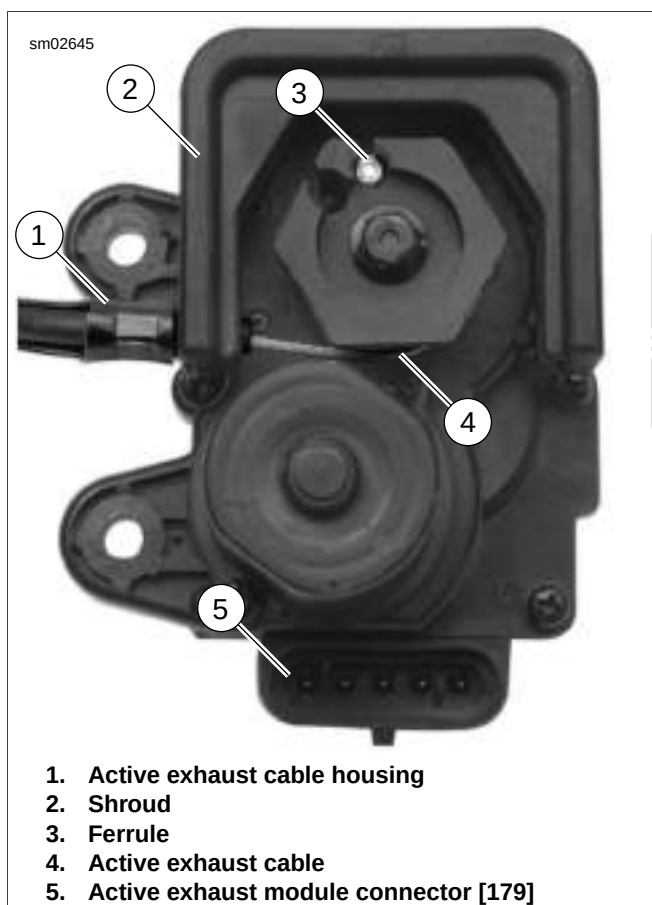
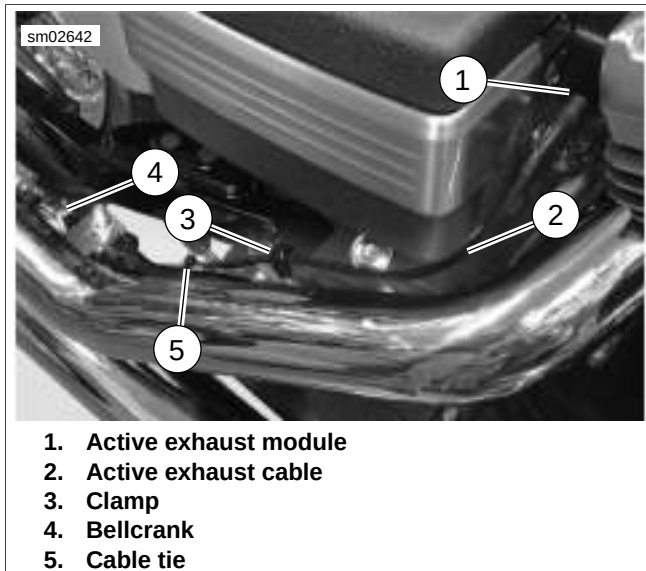
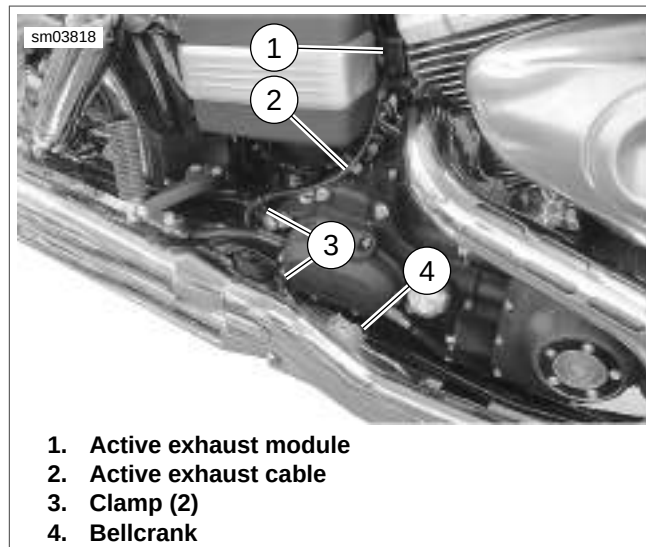

Figure 7-72. Active Exhaust Module
Figure 7-74. Active Exhaust Cable: All but FXDF
Figure 7-75. Active Exhaust Cable: FXDF
1. See Figure 7-72. Remove active exhaust cable housing (1) from notch in shroud (2). Remove ferrule (3) from active exhaust module to free cable (4).
See Figure 7-72. Active exhaust module shroud (2) can be replaced. Replace shroud if active exhaust cable housing (1) is a loose fit in shroud.
1. See Figure 7-72. Install ferrule (3) into slot shown. Wrap cable counterclockwise around active exhaust module shroud as shown.
2. Clip cable housing into active exhaust module housing (2).
4. Install fasteners (4) and washers (3). Tighten to 36-60 in-lbs (4.1-6.8 Nm).
5. See Figure 7-74 or Figure 7-75. After installation, be sure active exhaust cable is routed correctly and does not